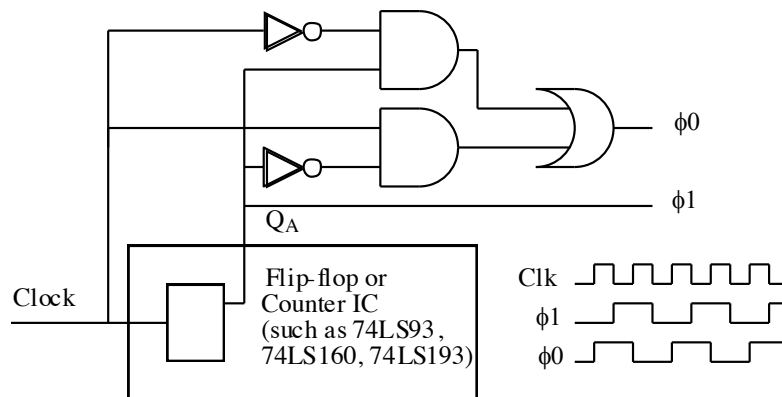

Figure 4 Stepper Motor Test Driver Circuit
3) A motor driver test circuit (**optional**) is shown in Figure 4 below. You can test your motor driver (described later) using a digital counter circuit that will give two square waves, with one lagging the other by 90 degrees. This could be used to check your motor drive electronics before you hook them up to the microcontroller, or to check them if the microcontroller does not seem to be doing the job. You could also use the microcontroller with the Lab 7 program.